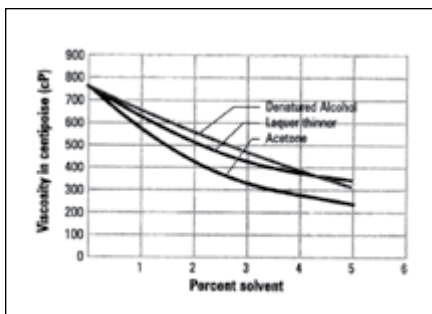

Figure 3. Viscosity of 105/206 epoxy vs percent of solvent added.
- Adding a small amount of one of these solvents has a significant effect on the viscosity of the epoxy. For example, adding 5% lacquer thinner makes about a 60% reduction in viscosity (Figure 3).